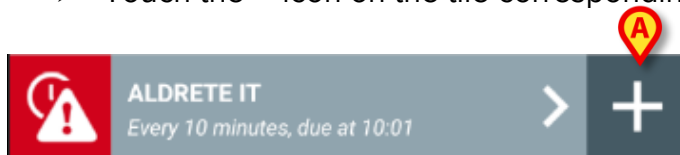

Fig 65
- Touch the **+** icon on the tile corresponding to the wanted dataset (Fig 65).